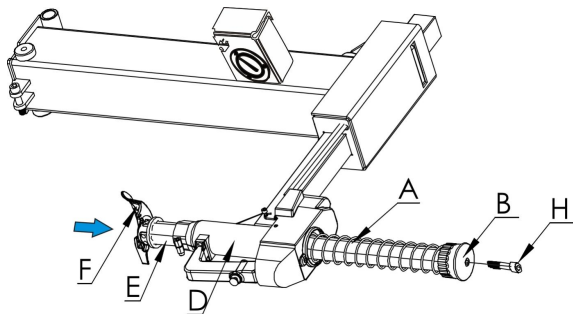

Fig.6
- As Fig.6, Remove screw M10*30 H with Allen key, take out B and return spring A. Install column E as direction marked, install return spring A and B, fasten H.